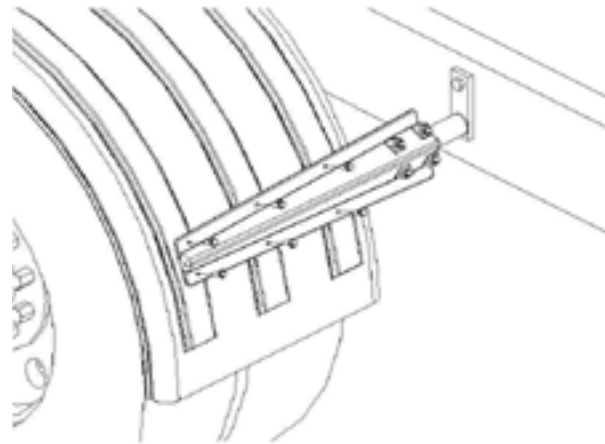

Figure 10
- A. Drill six 5/16" holes thru fender using the holes in bracket PB501026A as a guide. Install the 5/16" x 1" bolts thru the bracket and into the fender. Use six 5/16" body washers and 5/16" nuts provided with kit on the inside of fender. Do not over tighten bolts as it may crack the bracket. Hand tightening of bolts is suggested. Make sure the fenders are square and aligned. Twists or bows in the fender will fatigue the material over time. See figure 10.